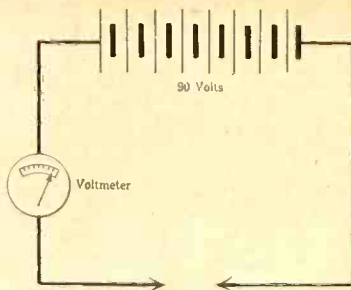

FIG. 288, illustrating the method of connecting a voltmeter.
**IS A voltmeter** connected in series or in shunt to a battery? (2)—Please show the correct and the wrong ways of connecting a voltmeter in a B battery circuit.—Harvel Strewens, Perth Amboy, N. J.
(1)—A voltmeter is always connected in shunt to a battery circuit. An ammeter is always connected in series to a battery or generator source. (2)—Fig. 288 illustrates the methods of connecting up a voltmeter. The correct way is to connect the two arrows together. The wrong way is to connect one arrow to, say, the plate of a tube and the other arrow to the A minus, etc.